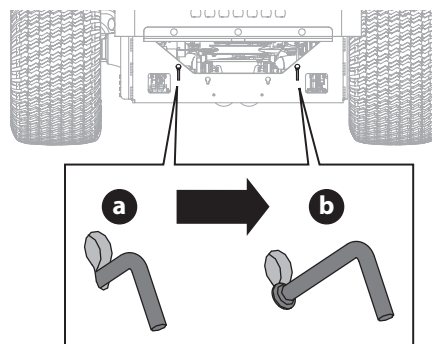

Fig. 3
1. To engage the transmission bypass rods, pull the rod (a) up into the larger opening of the key slot, then pull back until the collar on the rod passes through the frame (Fig. 3).
2. Lower the rod back into the smaller opening of the key slot, making sure the collar is secured on the outside of the frame (b). Repeat on opposite side (Fig. 3).